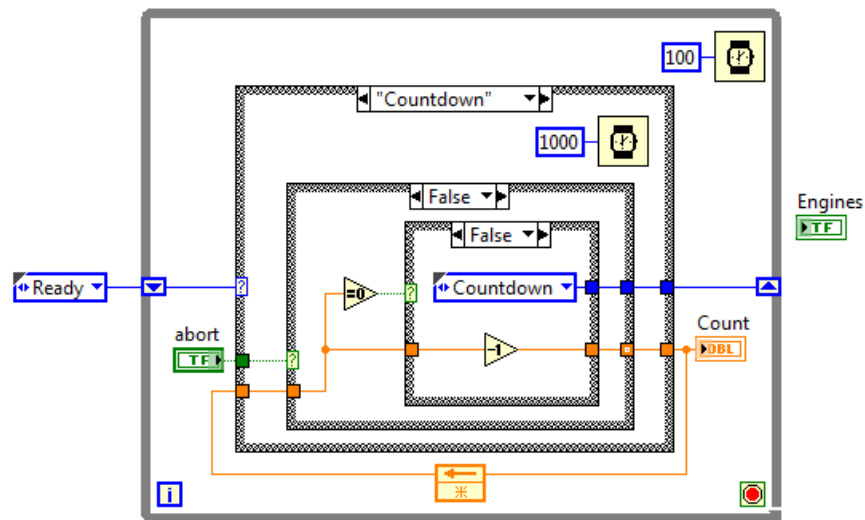

FIGURE 2.10 Wiring the Countdown state to check if we have counted all the way down.
16. Set the innermost Case Structure to show the False case and wire it to look like Fig. 2.10. Now, instead of reading the value of the Launch button, we are checking to see if the count has reached zero. If it has not, then we decrement the counter by 1 and return to the Countdown state. Note the new timer which makes the state last for a full second (so that we are counting down by seconds, as is traditional when launching rockets).